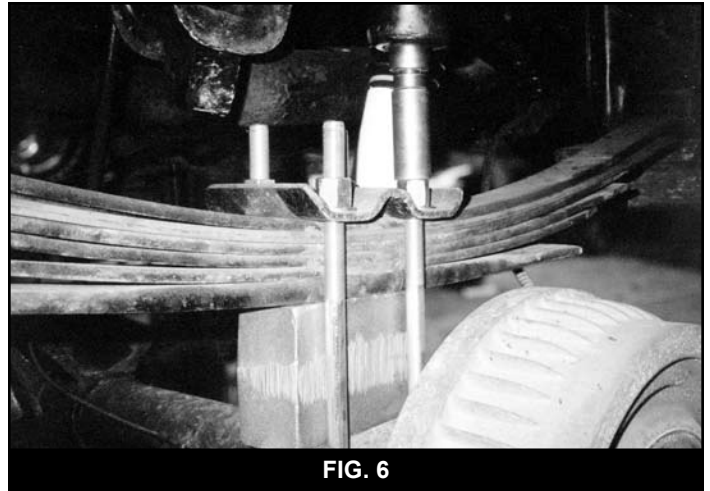

FIG. 6
8. Place lift blocks on top of axle spring seat, tapered end forward and secure with supplied u-bolts. Torque u-bolts to 130-150 ft.lbs. (Fig.6)